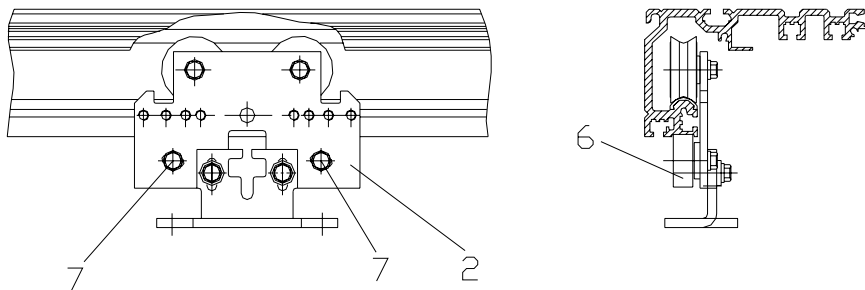

Figure 3.4
- 2 . After completing the installation of the sliding wings, we should check the flexibility of the counter-pressure roller (6) to make sure that the counter –pressure roller can be pushed manually, when running carriage (2) is shifted, the pressure ruler (6) must be able to stop.
- 3 . Adjust counter- pressure roller(6): slightly loose the Screw(7) about 1/2 circle, push the screw along the slanting slots until the right position, and then screw it down. See Figure 3.4